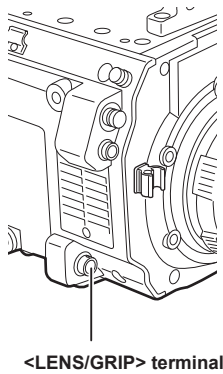

Fig. 3
- 3** Connect the cable to the <LENS/GRIP> terminal. (Fig. 3)